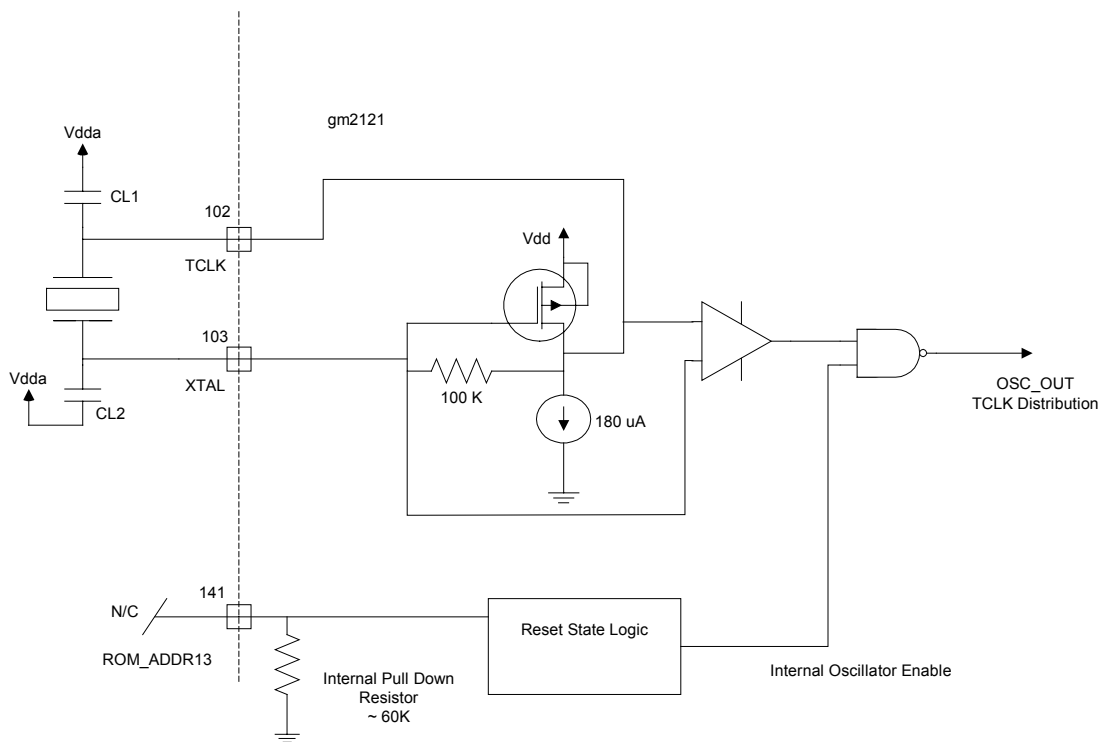
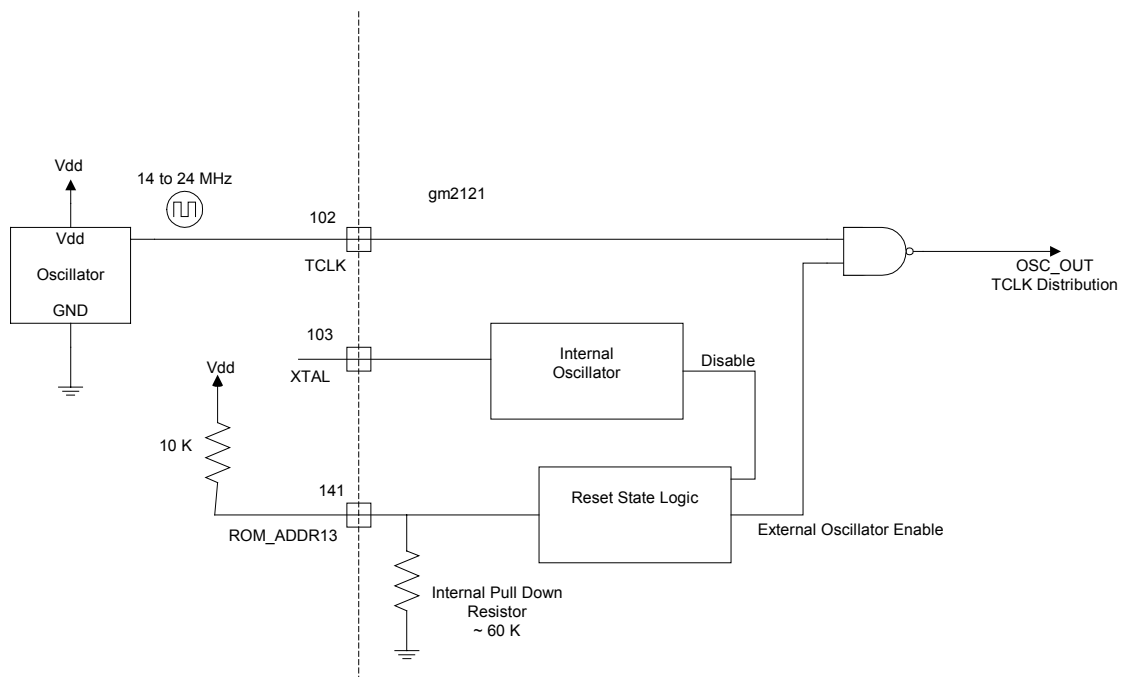

Figure 4. Using the Internal Oscillator with External Crystal
Figure 7. Using an External Single-ended Clock Oscillator
1. Crystal Input Clock (TCLK and XTAL). This is the input pair to an internal crystal oscillator and corresponding logic. A 20.0 MHz crystal is recommended. Other crystal frequencies may be used, but require custom programming. This is illustrated in Figure 4 below. Alternatively, a single-ended TTL/CMOS clock oscillator can be driven into the TCLK pin (leave XTAL as N/C in this case). This is illustrated in Figure 7 below. This option is selected by connecting a 10KΩ pull-up to ROM_ADDR13 (refer to Table 17). See also Table 12.
Another option for providing the reference clock is to use a single-ended external clock oscillator. When the gm2121 is in reset, the state of the ROM_ADDR13 is sampled. If ROM_ADDR13 is pulled high by connecting to VDD through a pull-up resistor (10KΩ recommended, 15KΩ maximum) then external oscillator mode is enabled. In this mode the internal oscillator circuit is disabled and the external oscillator signal that is connected to the TCLK pin is routed to an internal clock buffer. This is illustrated in Figure 7.